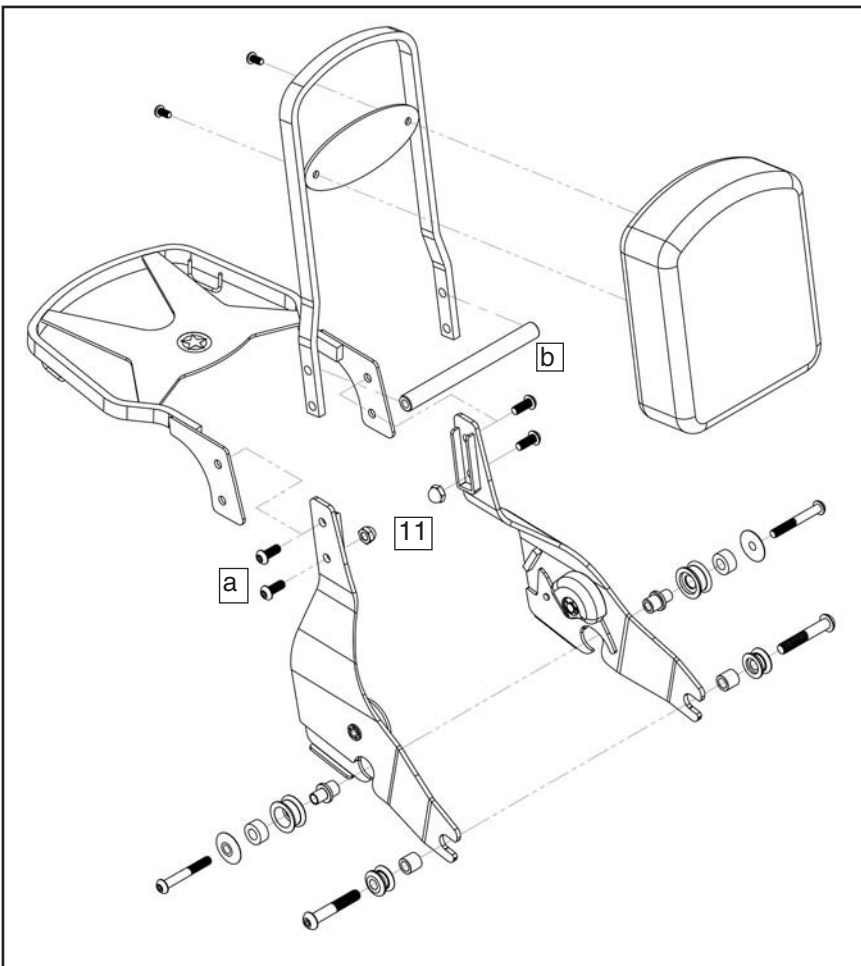

Figure 3
1. Assemble side plates (1) and (2) to the Paladin backrest alone or with the Paladin luggage rack. **(5mm Wrench and 13mm Box Wrench) Figure 3.**
2. Use items (a) button head screw and (b) support stay (provided with the backrest kit) and item (11) cap nut (provided in this kit) to complete assembly of the side plates.